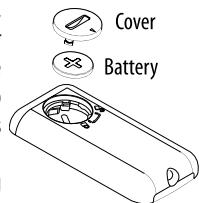

Fig. 1
- To replace the batteries, remove the battery cover by rotating it. Replace the battery paying attention to respect the right polarity as shown in figure 1.
- To clean the filter, remove the rear grille by pulling it outwards (fig. 1). Remove the dust filter that retains impurities in the air drawn in from the room, blow on it lightly then put it back in the appliance.